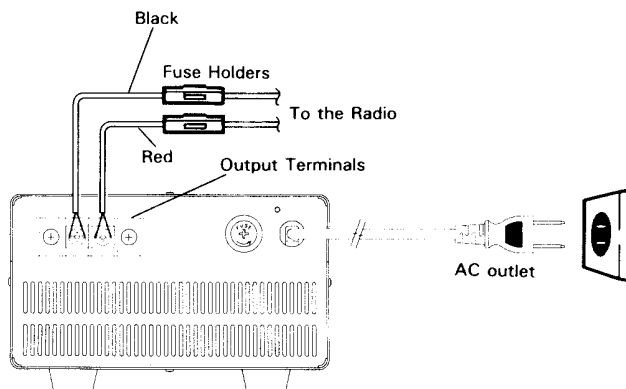

Fig. 3-1.
1. Connect the DC Power Cable from the radio to the Output Terminals on the Rear Panel, as shown in Fig. 3-1..